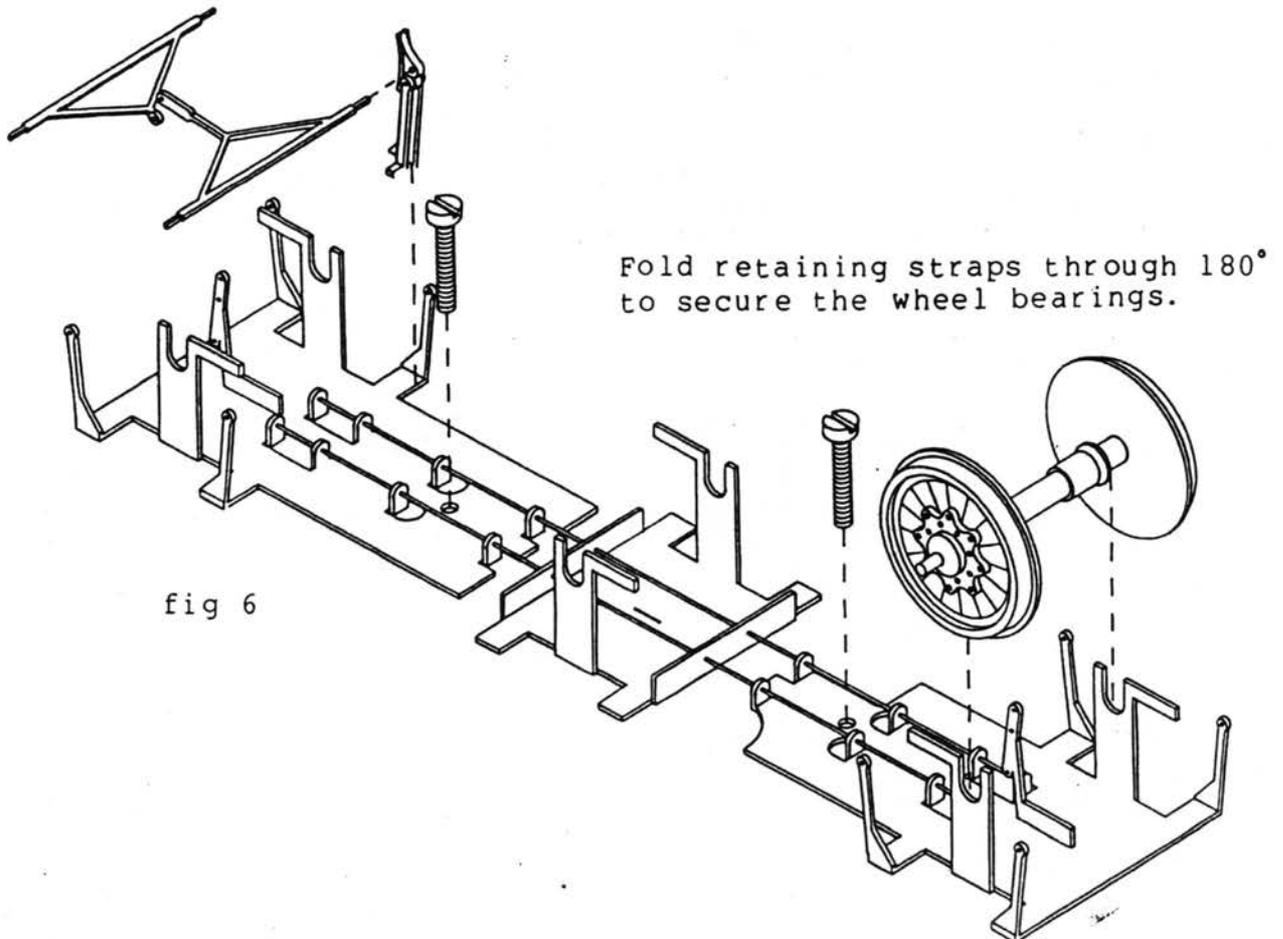

fig 6
12. Remove the etched triangular cross bars (11) from the fret, note that there are two types - those with a circular end and those with an elongated end. You will need one of each type for the outer wheelsets. Referring to figure 6 twist the shaft through 90° near to the end. Locate the cross bar with the circular end between the pairs of brake shoes and carefully solder the circular end to the central hole in the brake lever (8).
13. Solder the etched brake pull rod (9) between the actuating lever (12) and the lever (8). Also solder a length of 0.030" wire from the actuating lever to the brake lever (8) at the far end of the vehicle. Do not add the other pull rod until the wheelsets have been finally fitted.
18. Now fasten the units to the carriage floor using the two 8BA cheesehead screws as per figure 6. The screws will form their own thread in the plastic but do not attempt to overtighten as the units should be free to pivot slightly.